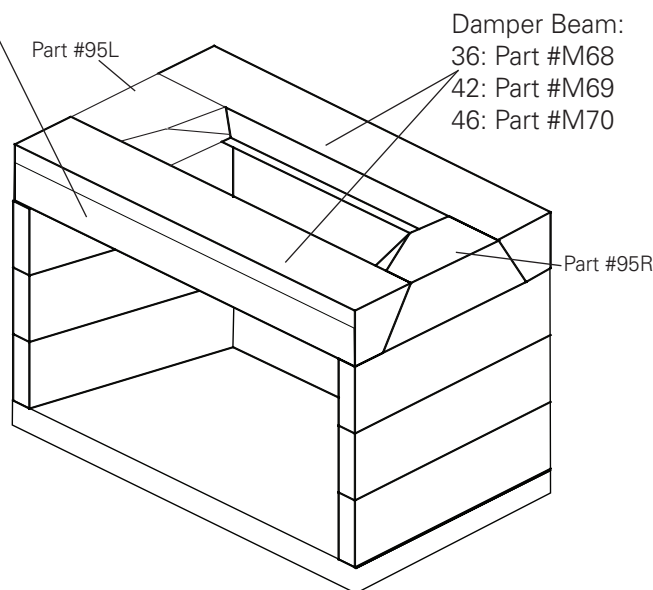

FIGURE 23
The two (2) lintels will be equal to the width of the fireplace model that they serve. Properly placed, the lintel is to sit on top of the firebox back wall and flush with it; the other lintel sits flush with the front of the firebox, spanning the firebox opening. These components both sit on their narrow base so that their beveled face points down and into the firebox interior. **(Figure 23)**
7. With the damper beams assembled and Earthcore adhesive together, set the cast iron throat damper (unless another damper type is being used) on top of the damper beam and over the smoke chamber opening. The cast iron damper's operating plate should face toward the rear of the fireplace. **(Figure 23)** The flange at all four sides of the cast iron damper should be supported by the damper beam's top surface.